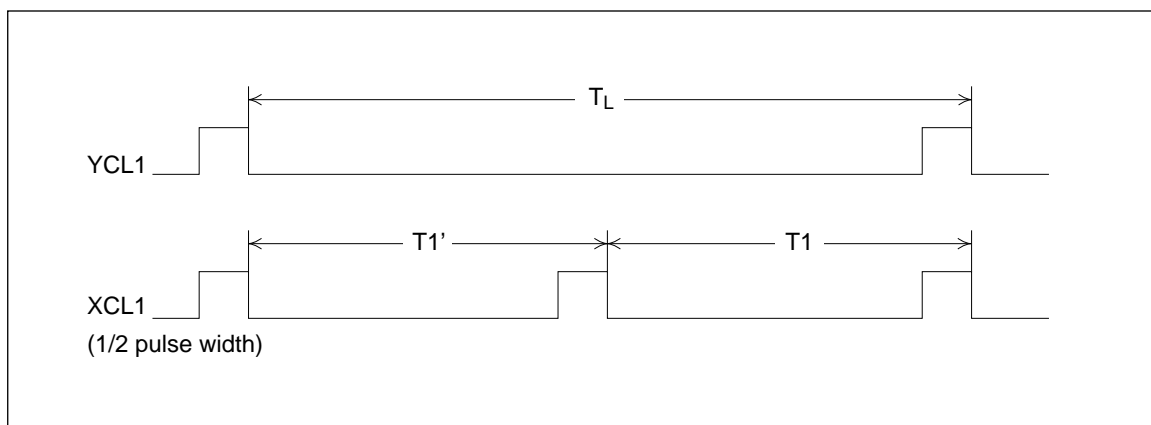

Figure 34 T_L , $T1$, and $T1'$
- GC8–GC0 bits: Specify the number of dots for T1; T1 is the period of XCL1 for 1/2 pulse width gradation display. When the total number of dots for one period of the YCL1 clock pulse cannot be divided by two for 1/2 pulse width gradation display, the remainder is added to T1 as T1', where $T1' = T_L - T1$ (figure 34).